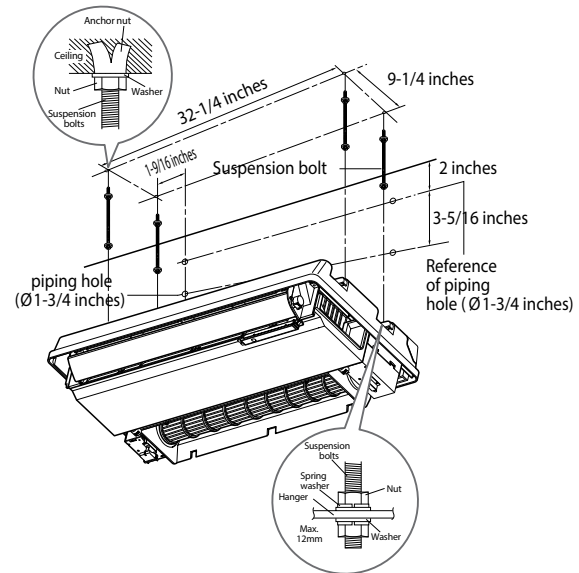

Figure 6: Convertible Unit Ceiling Mounting
2. Refer to Figure 6. Measure and mark the positions of the hanging bolts and the piping hole.